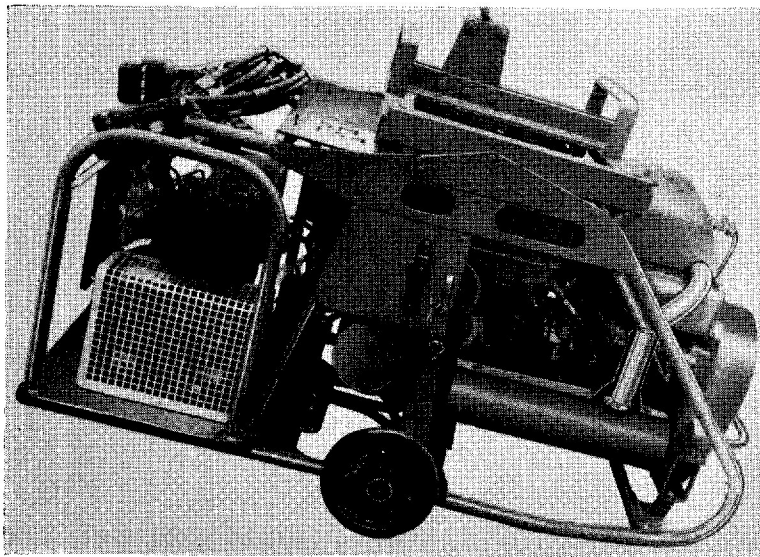
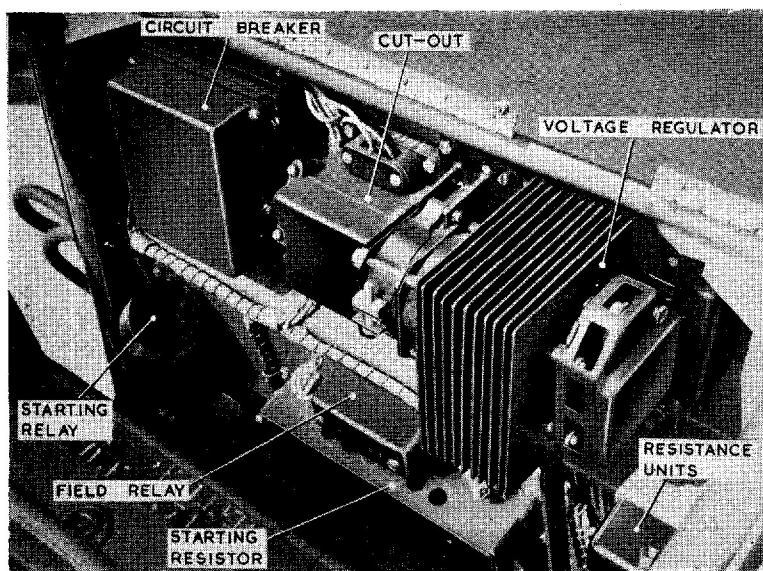
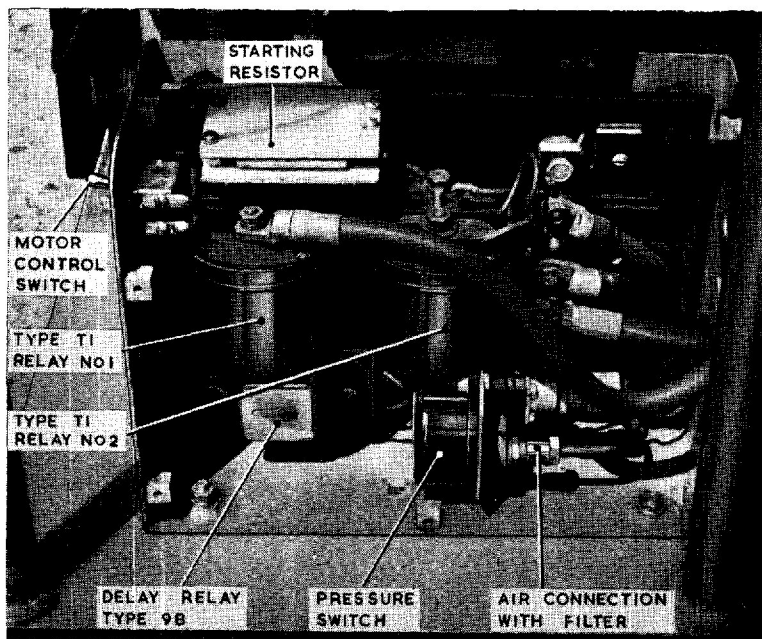
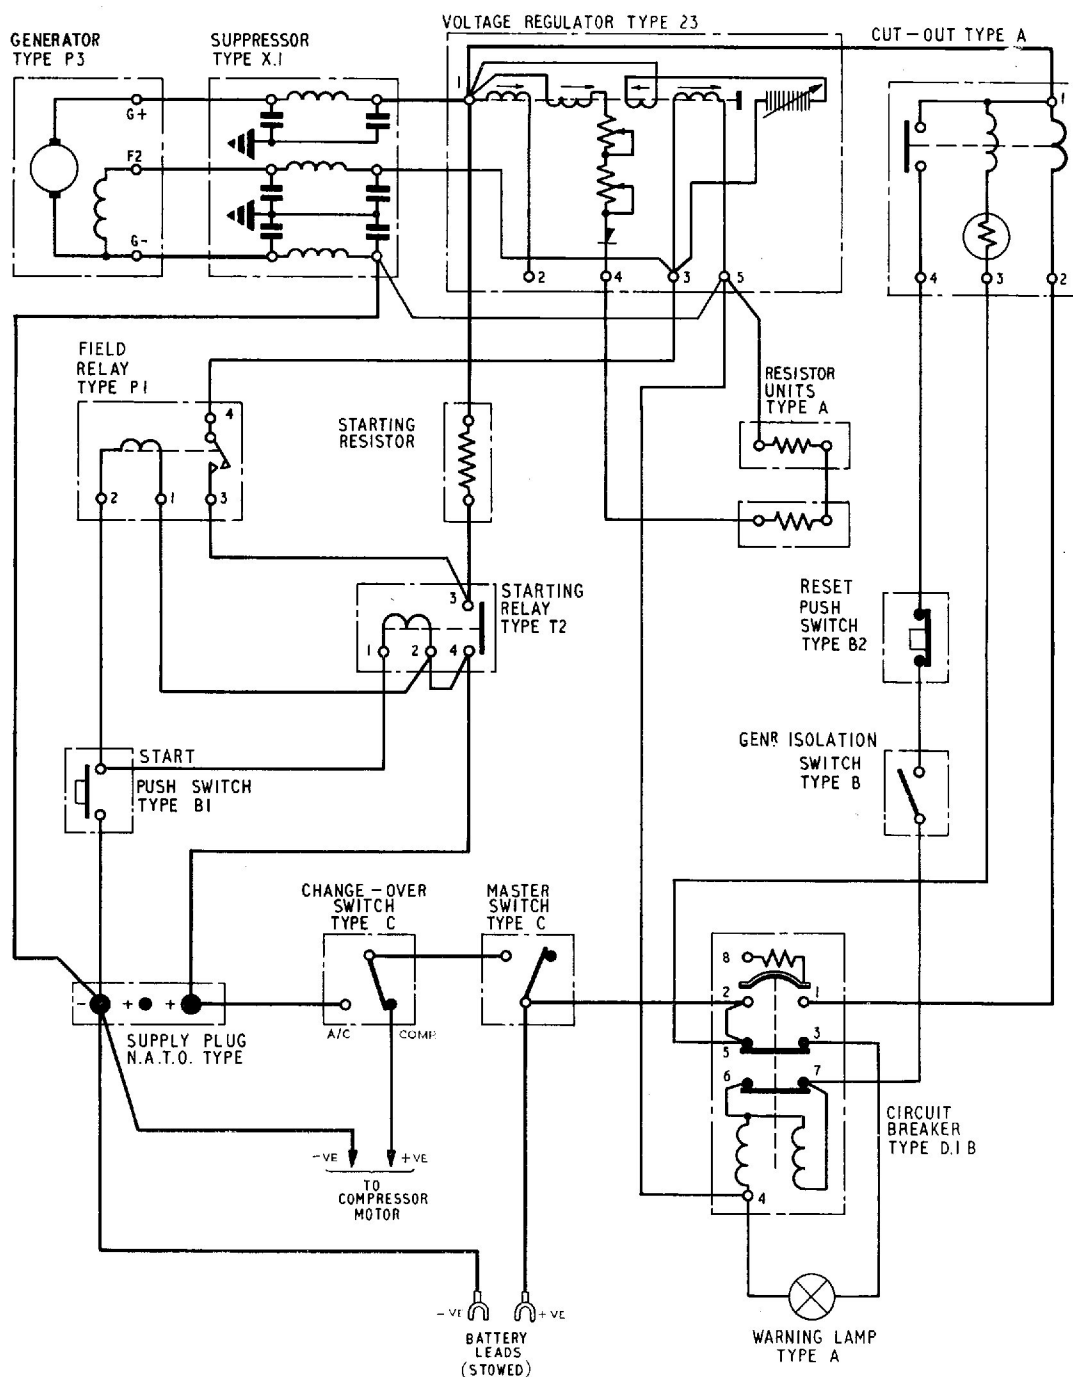

Fig. 1. Airborne auxiliary power plant
Fig. 2. Generator control panel
Fig. 3. Motor control panel
Fig. 6. Generator control circuit (theoretical)
2. The auxiliary power plant (*fig. 1*) comprises a tubular steel chassis equipped with retractable rubber wheels on which is mounted a 500 c.c. Triumph internal combustion engine coupled to a Type P3 generator. Control and protection equipment for the latter is mounted on a metal plate (*fig. 2*) located behind the air compressor. The motor-driven air compressor, together with its associated equipment, is mounted on a detachable platform bolted on to the main frame and is located at the end of the unit (*fig. 1*). A length of unipren 150 cable, fitted with N.A.T.O. sockets, is provided to connect the unit to the aircraft. Provision is made to connect a 24V, 40 A.H. battery to the trolley as shown in *fig. 6*, however, as a battery is not normally connected the battery cables are connected to a dummy stowage block.
5. The 28V d.c. motor, which is coupled to the air compressor, is supplied by the Type P3 generator when the aircraft compressor changeover switch, located on the side of the unit, (*fig. 1*) and the compressor
motor control switch (fig. 3), are appropriately selected. The high pressure air supply is alternative to the electrical supply provided by the auxiliary power plant. Information on the construction, operation and servicing of the compressor is given in Appendix 1 to this chapter.
6. The control panel (fig. 3) is mounted adjacent to the motor compressor, it is protected by a mesh guard as illustrated in fig. 1. The purpose of the control panel is to limit the current consumed by the compressor motor during starting, and to automatically disconnect the motor from its supply source when the air pressure acting on the pressure switch reaches the required value.
suppressor is fitted to eliminate radio interference due to ripple produced by the generator. The suppressor is located at the bottom of the electrical panel (fig. 2). Further information on this component may be found in A.P.4343C, Vol. 1, Book 3, Sect. 6.
9. The Type 23 voltage regulator is fitted to the right of the electrical panel (fig. 2). As may be seen from the circuit diagram (fig. 6) the decompounding coil (terminal 2) is not used, since load sharing facilities are not required on a single generator system. Since, in consequence, the generator voltage remains relatively constant, a Type 32 master regulator is not required and two type A resistance units are substituted for the carbon pile of the latter. These are connected between terminals 4 and 5 of the voltage regulator so enabling it to control the voltage at approximately 28V. A.P. 4343B, Vol. 1, Book 1, Sect. 1 provides detailed information on the Type 23 voltage regulator.